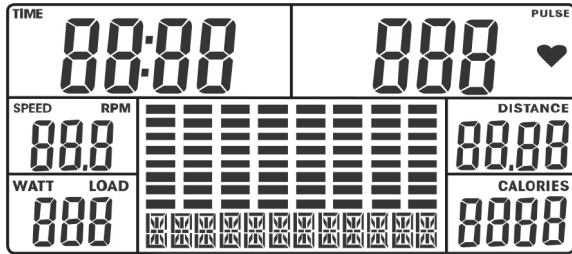

Figure 1
1. Connect monitor to the power or press RESET for three seconds and the LCD display will show all segments with a long beep (1-second-long) and display, i. e., 78.0 (software version) (see figures 1 and 2).